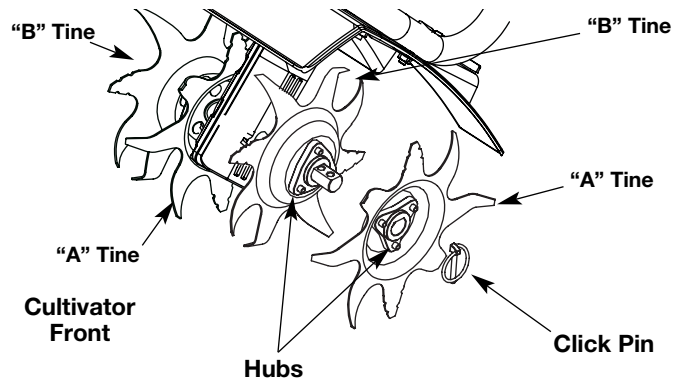

Fig. 11
- Remove the click pin from each end of the tine shaft. Slide the tines off the shaft (Fig. 11).
- Using Figures 11 and 12 for reference, slide on the new tines with the **hubs facing outward**.